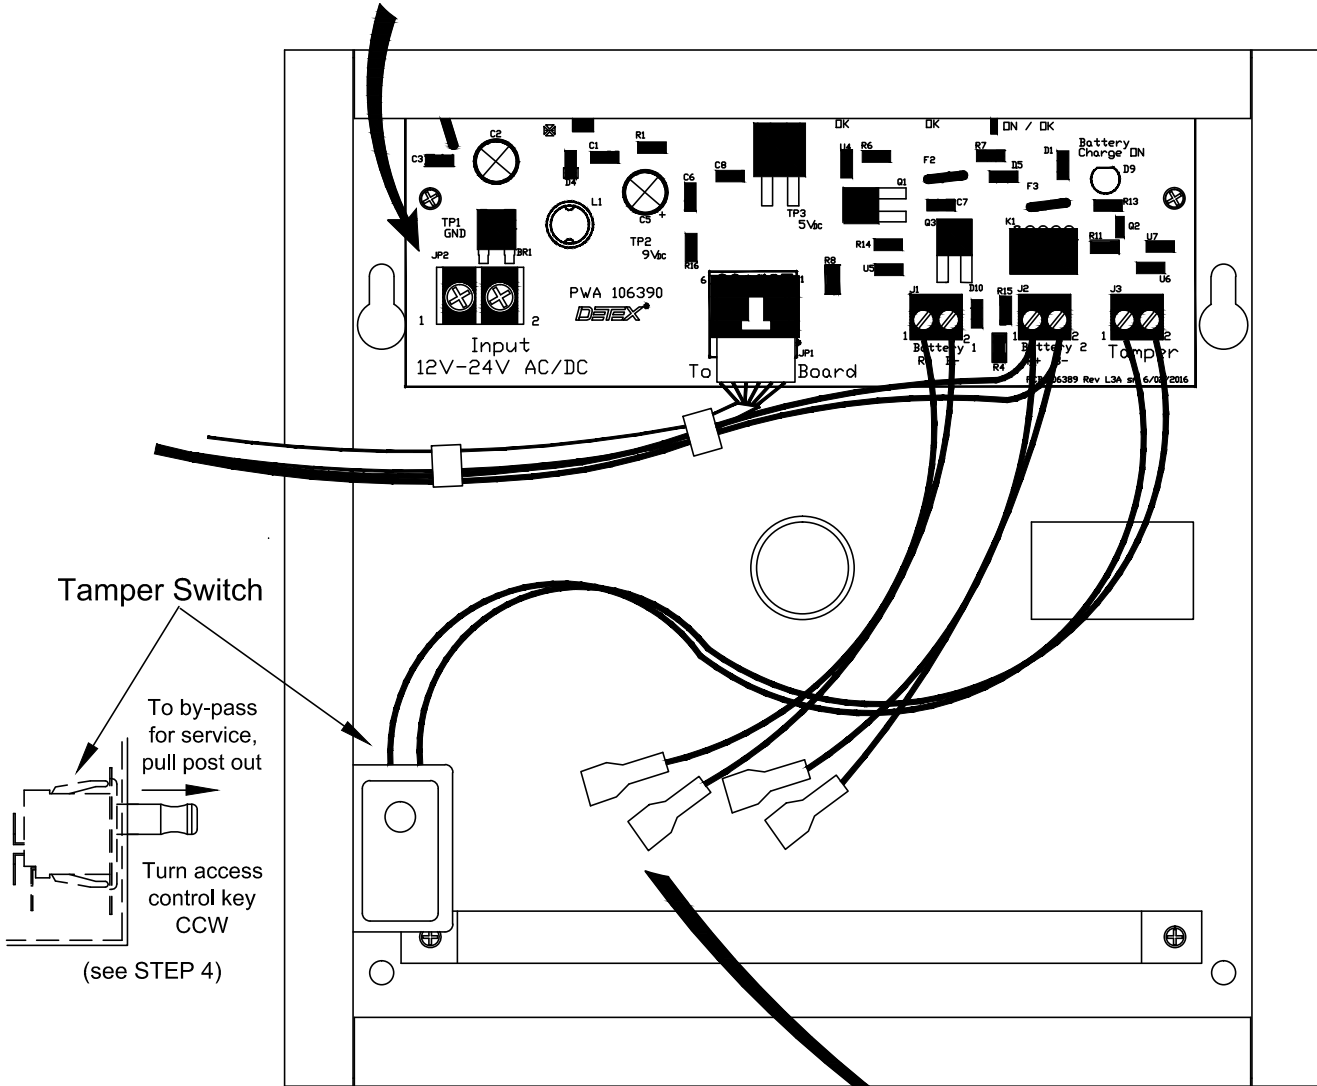

Fig. 3
STEP 3. TRANSFORMER WIRING: Fig. 3 (DO NOT PLUG IN TRANSFORMER AT THIS TIME)
To service device, pull plunger on tamper switch as shown in Fig 3. Rotate access control key CCW.